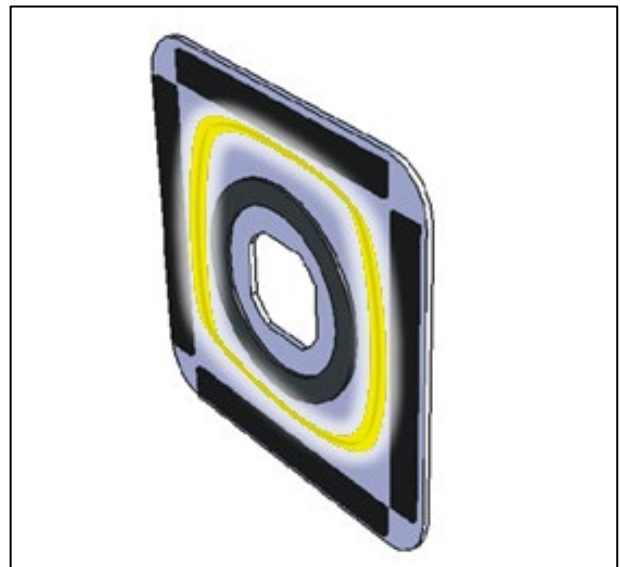

FIGURE 11
13. Apply one bead in the zone between both gaskets. (Fig. 11)